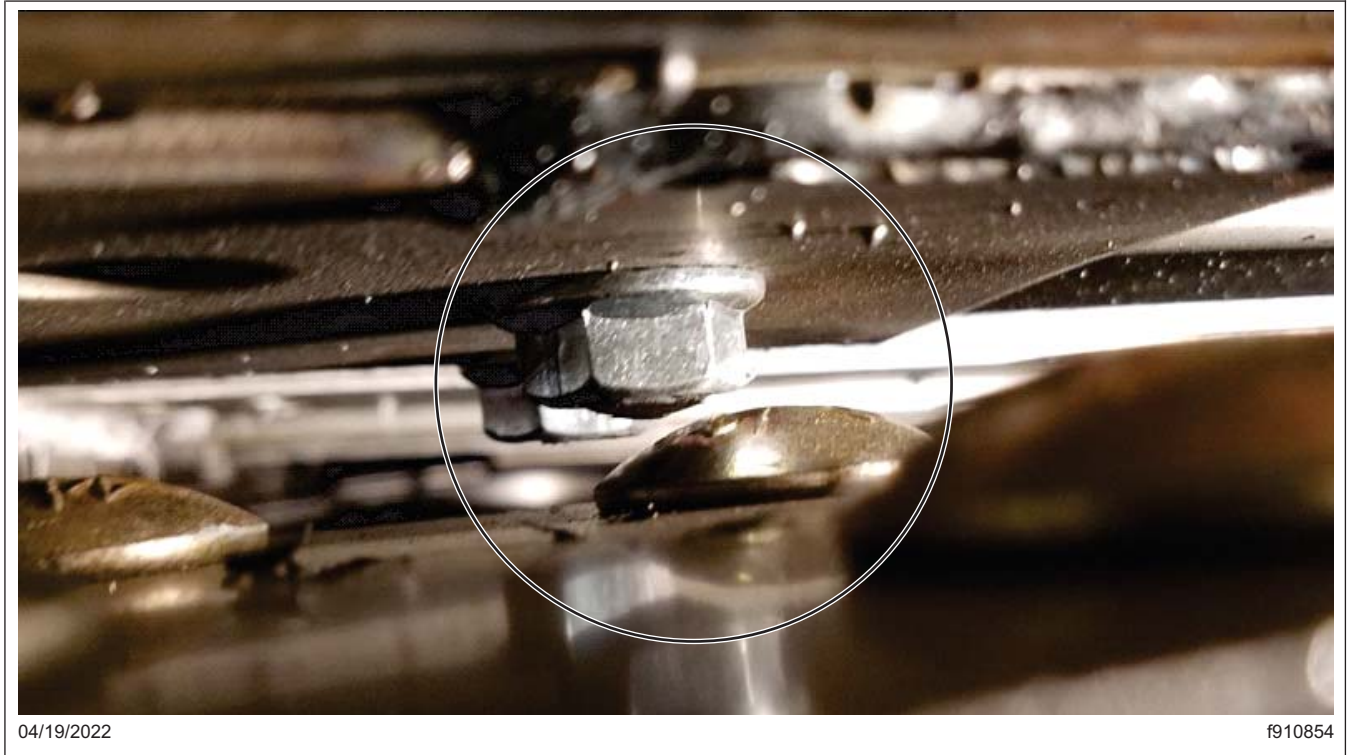

Fig. 16, Clearance Between the Seat Bolt and the Body Secured to the Chassis
14. After the body is secured to the chassis, inspect the seat bolt for clearance, as shown in Fig. 16.